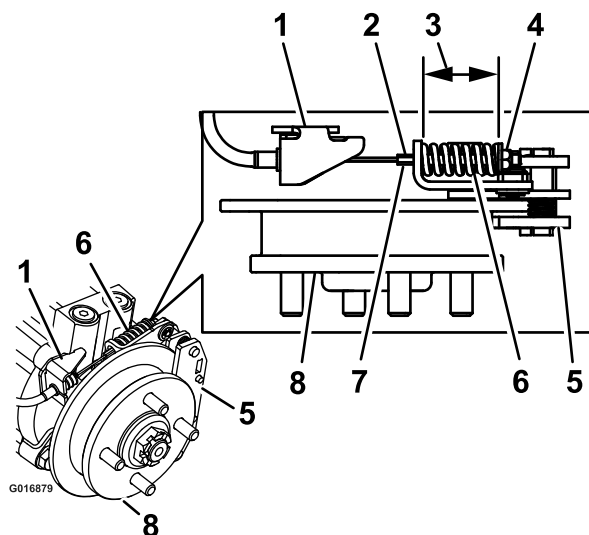

Figure 76
9. Hold the threaded rod end with a tool and adjust the lock nut until the spring length is between 3.8 and 4.0 cm (1-1/2 and 1-9/16 inches) (Figure 76). Do not allow the cable to turn when the nuts are being loosened.